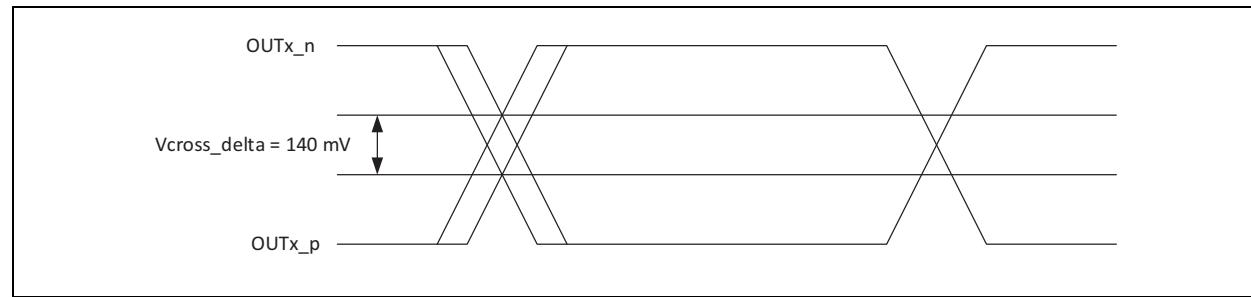

FIGURE 1-2: Single-Ended Measurement Points for Delta Cross Point.
- 8:** Defined as the total variation of all crossing voltages of Rising $OUTx_p$ and Falling $OUTx_n$. This is the maximum allowed variance in V_{CROSS} for any particular system. See Figure 1-2.